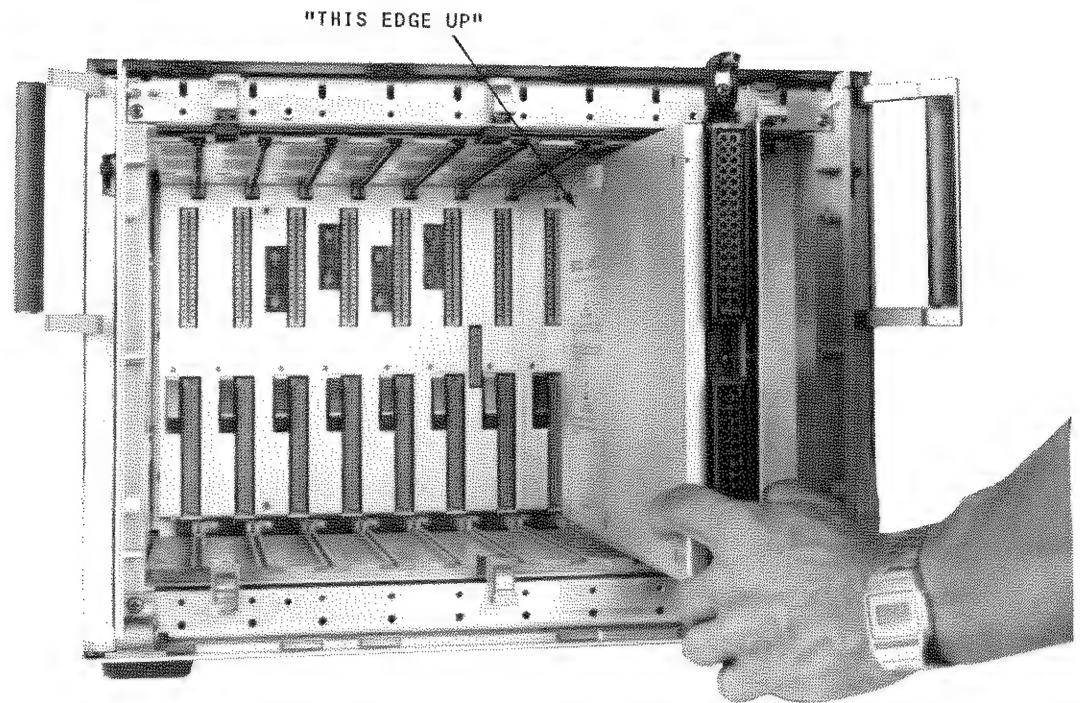

Figure 11. Installing the Plug-In Modules.
4. Orient the module according to the "THIS EDGE UP" arrow on the cover shown in Figure 11.